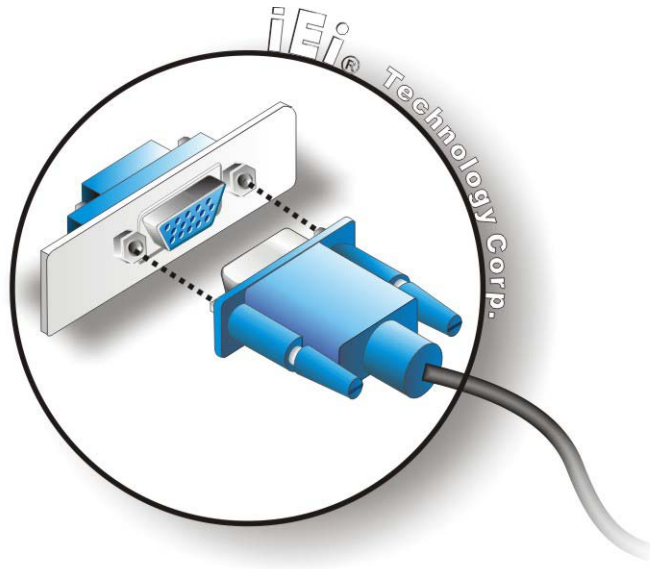

Figure 3-10: VGA Connector
Step 2: Align the connectors. Align the USB device connector with one of the connectors on the external peripheral interface. See **Figure 3-10**.